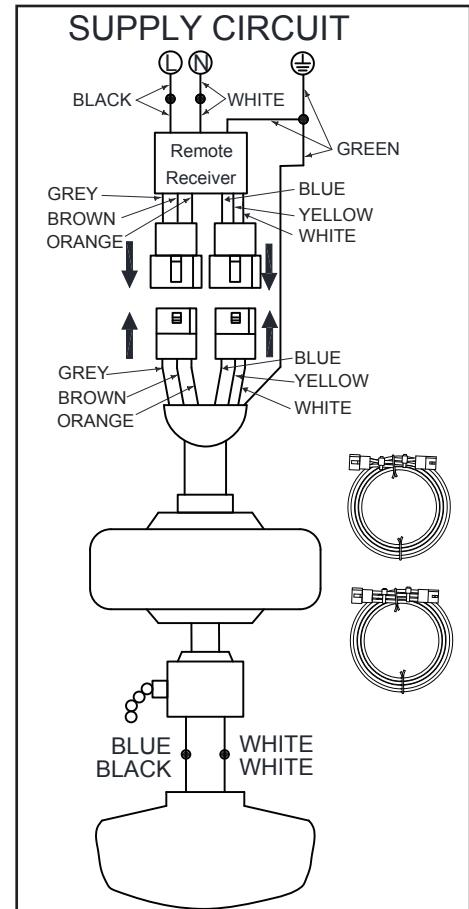

Figure 12
1. If using the 6 in. ball downrod assembly provided, wire the receiver to the fan wires by connecting the molded adaptor plugs from the receiver with the molded adaptor plugs of the fan motor assembly together. (Figure 12)